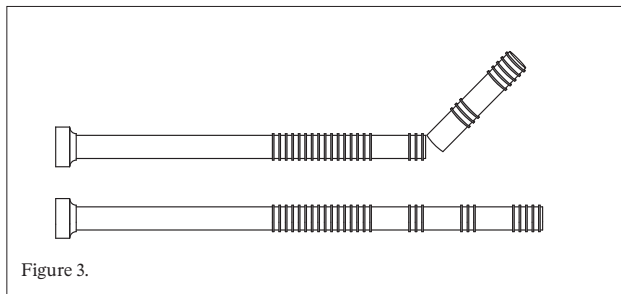

Figure 3.
- 3.2 If required, shorten connector bolts (C or D) to suit door thickness. Figure 3.